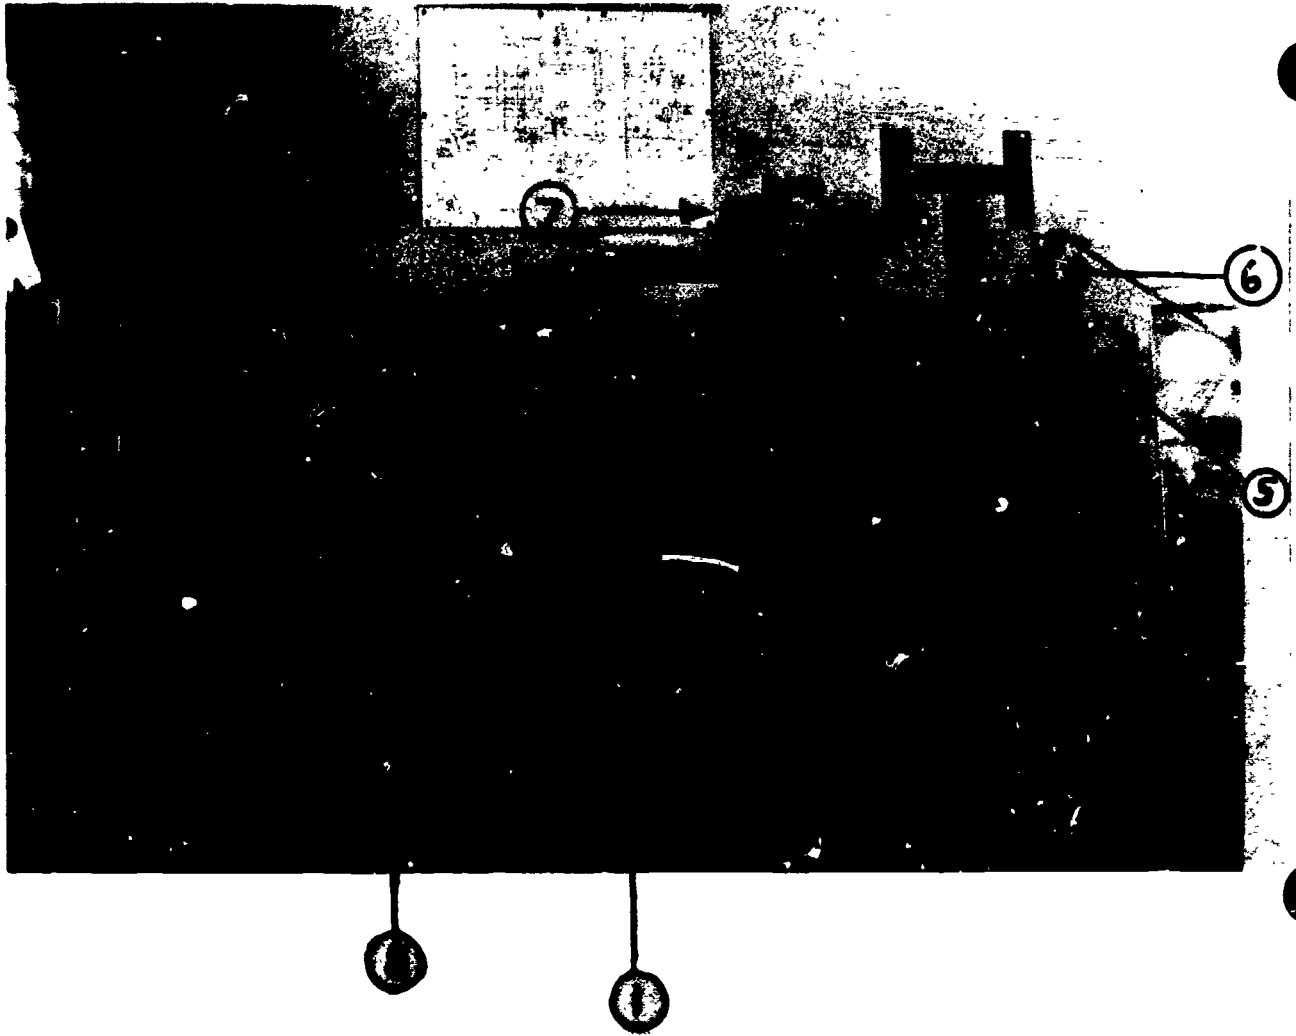

Figure 3.
a. Using the trainer and the illustrations in figure 3, locate each of the numbered items. Write the name of each of these numbered items in the blank spaces below.